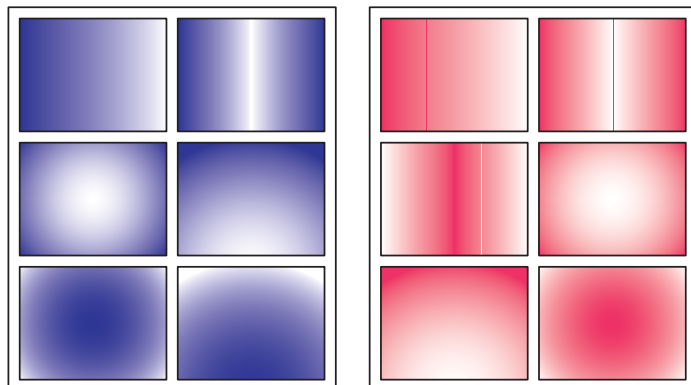

Fig. 8.9 Fourth example – Gradient hatching
Fourth example – Colour Gradient hatching (Fig. 8.9)
1. Construct two outlines each consisting of six rectangles (Fig. 8.9).
The result is shown in Fig. 8.9.